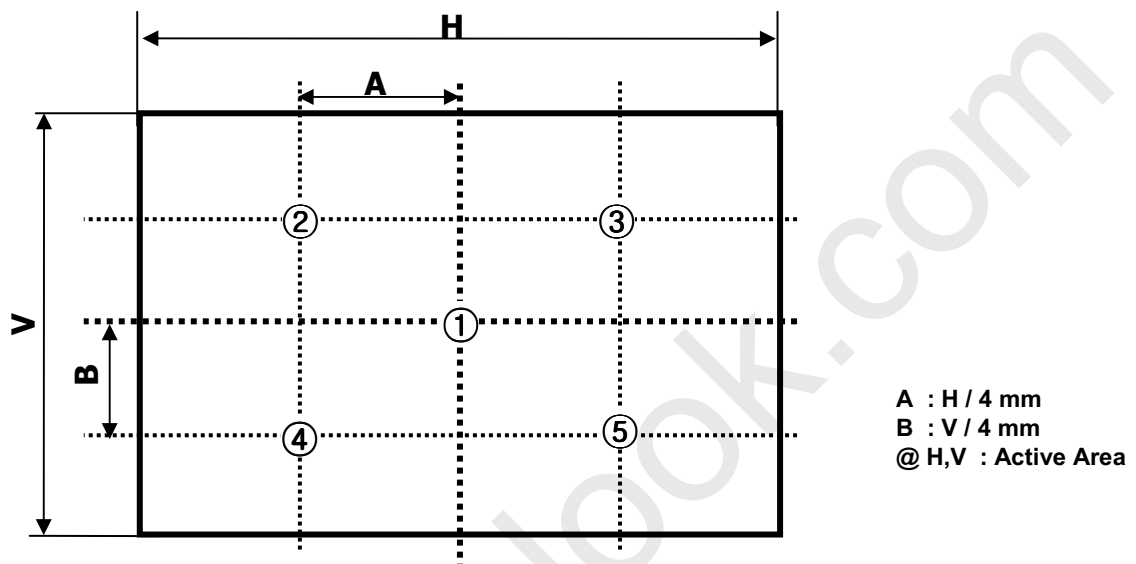

FIG. 2 5 Points for Luminance Measure
n = the Position number(1, 2, 3, 4, 5). For more information, see FIG. 2.
2. Surface luminance are determined after the unit has been 'ON' and 1 Hour after lighting the backlight in a dark environment at  $25 \pm 2^\circ\text{C}$ . Surface luminance is the luminance value at center 1-point across the LCD surface 50cm from the surface with all pixels displaying white. For more information see the FIG. 2.
For more information, see the FIG. 2.